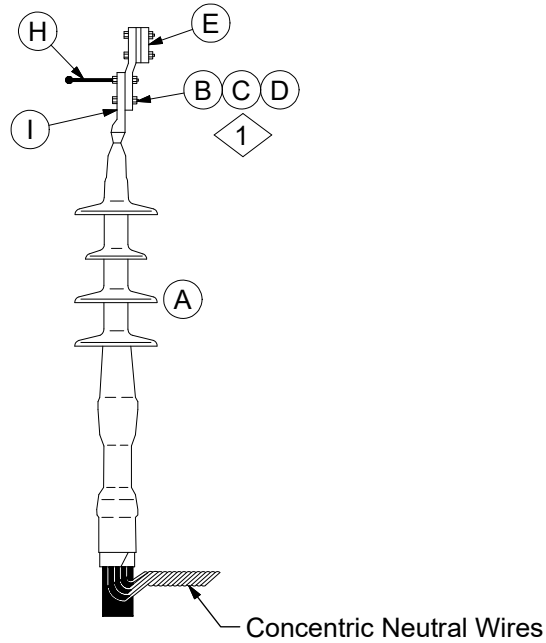

Figure 6
9. For outdoor installations, attach a bronze four bolt lug to the compression lug or shearhead bolt lug using a ground stud in the upper hole and a 1/2" x 2" bolt in the lower hole. See Figure 6.